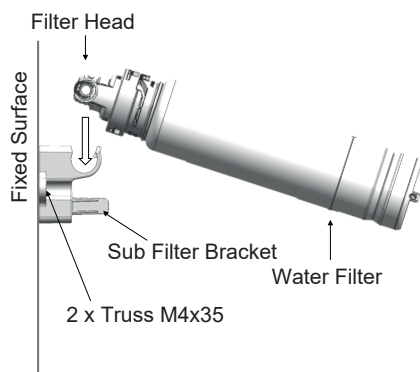
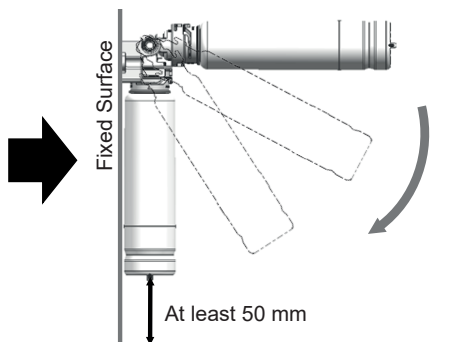

Figure 5: Sub Filter Bracket and Water Filter fixing direction.
Figure 6: Water Filter usage setting.
Step 9: Determine the mounting position for the Water Filter and fix the Sub Filter Bracket ⑥ with 02 pcs of Truss M4x35 ⑦ to a fixed surface. The direction to fix Sub Filter Bracket is referred to in Figure 5. Ensure the Water Filter is in a convenient location to access easily every 6 months for replacement. Ensure the clearance from the bottom of Water Filter is at least 50 mm to perform filter removal (Figure 6).
We recommend fitting the Water Filter in a vertical orientation with the Filter Head at the top as in Figure 6.